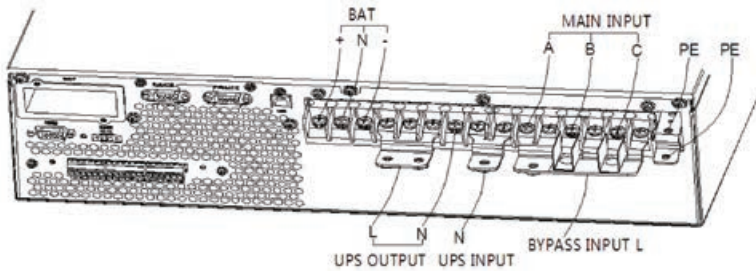

Fig. 3-15 3 phases in 1 phase out, common input
2. Short-circuit mA, bA, bB, bC with No.6 copper bar; Short-circuit BAT-N, oN, bN, mN with No.7 copper bar; Short-circuit A, oB, oC with No.4 copper bar. As shown in figure 3-15